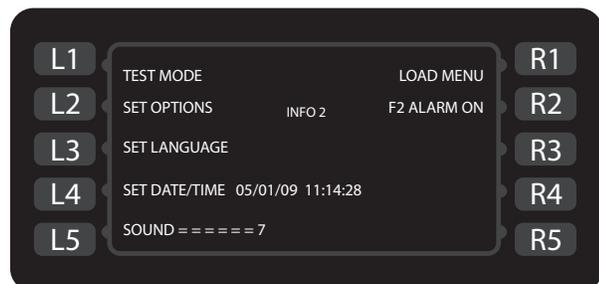
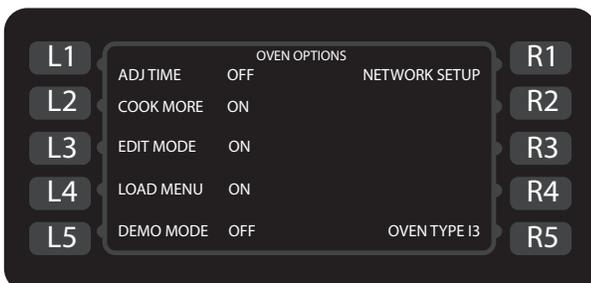
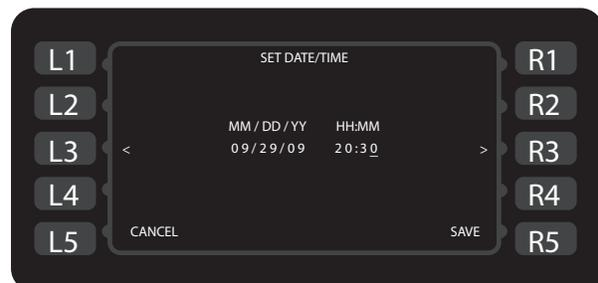

Figure 16: Info Mode Screen 2
Figure 19: Options Screen
Figure 20: Set Date/Time
From screen 2 of the Info Mode (Figure 16):
From screen 2 of the INFO MODE (Figure 16, page 13), press the L2 soft key to access the Options screen (Figure 19). When prompted, enter the password 9 4 2 8 and press the Enter key.
Having an accurate date and time is important for logging oven counts, diagnostics, and fault conditions, should any occur. The oven time and date are set at the time of manufacture; however, the technician may at some point be required to make an adjustment. From screen 2 of the INFO MODE (Figure 16, page 13), press the L4 soft key to access the “Set Date/Time” screen (Figure 20).
From screen 2 of the INFO MODE (Figure 16, page 13), press the L5 soft key to adjust the beeper volume.
To turn the F2 alarm on or off, press the R2 soft key from the Info 2 screen (Figure 16, page 13).
From screen 2 of the INFO MODE (Figure 16, page 13), press the R1 soft key to access the Load Menu screen.
NOTE: This feature can be turned on or off via the “Options” screen (Figure 19, page 14).
6. Verify the oven type is set to "i3" (Figure 19).